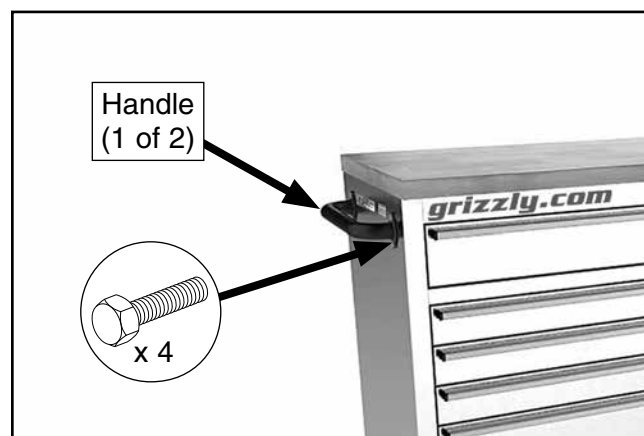

Figure 2. Handle installed.
1. Attach handle to each side of tool chest with (4) 1/4"-20 x 1/2" hex bolts (see **Figure 2**). Do not over-tighten!